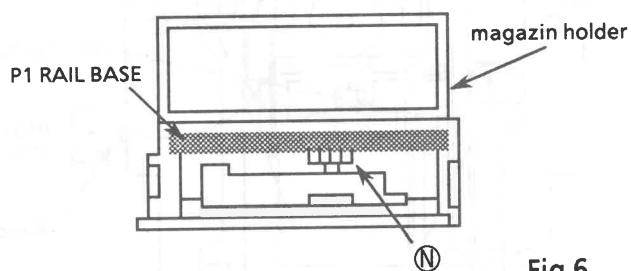

Fig.6
8. Removing the P1 RAIL BASE Ass'y (Fig.6,8)
- 1) Rotate the gear ⑮ clockwise a little.
- 3) Remove the screw ⑯.
9. Removing the P1 RAIL BASE (Fig.6,7,8)